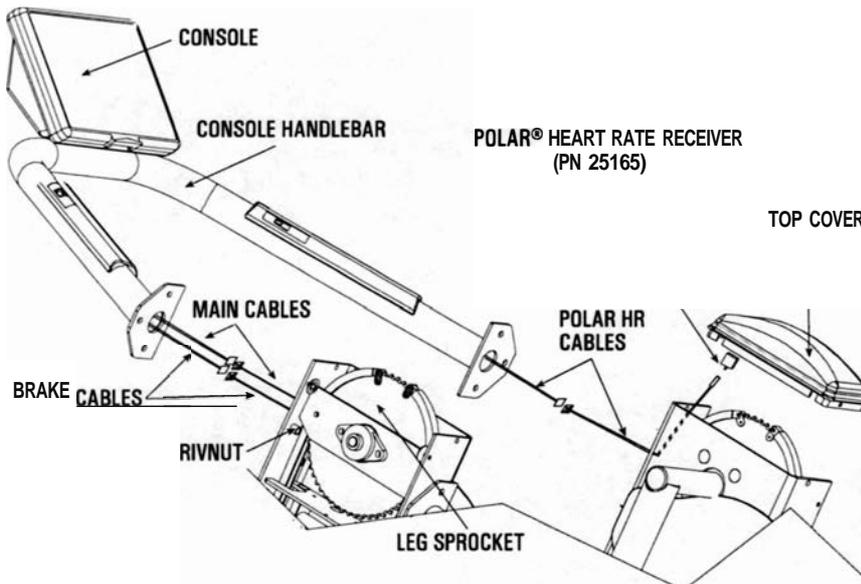

**Figure 3: Tywrap Location**
1. Cut each tywrap that secures the console handlebar to the rear support bars (see Figure 3). Remove the foam protection from each side of the handlebar. Lift the handlebar out from under the pedals. Set the handlebar with console aside. Remove the step cover from under the pedals and set the cover aside.